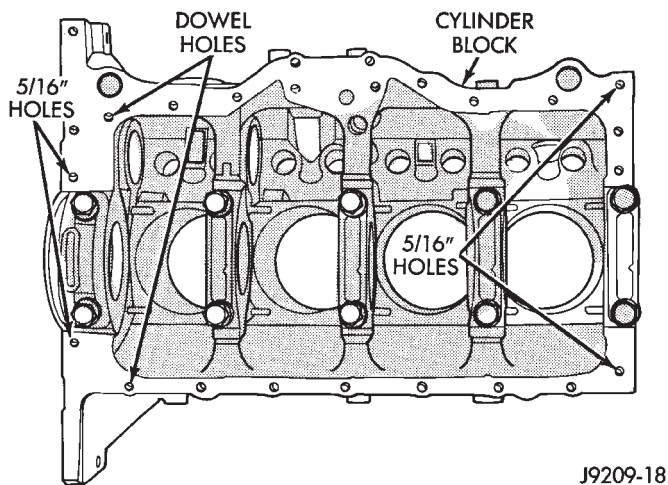

Fig. 59 Position of Dowels in Cylinder Block
(3) Install two dowels in the timing case cover. Install the other two dowels in the cylinder block (Fig. 59).